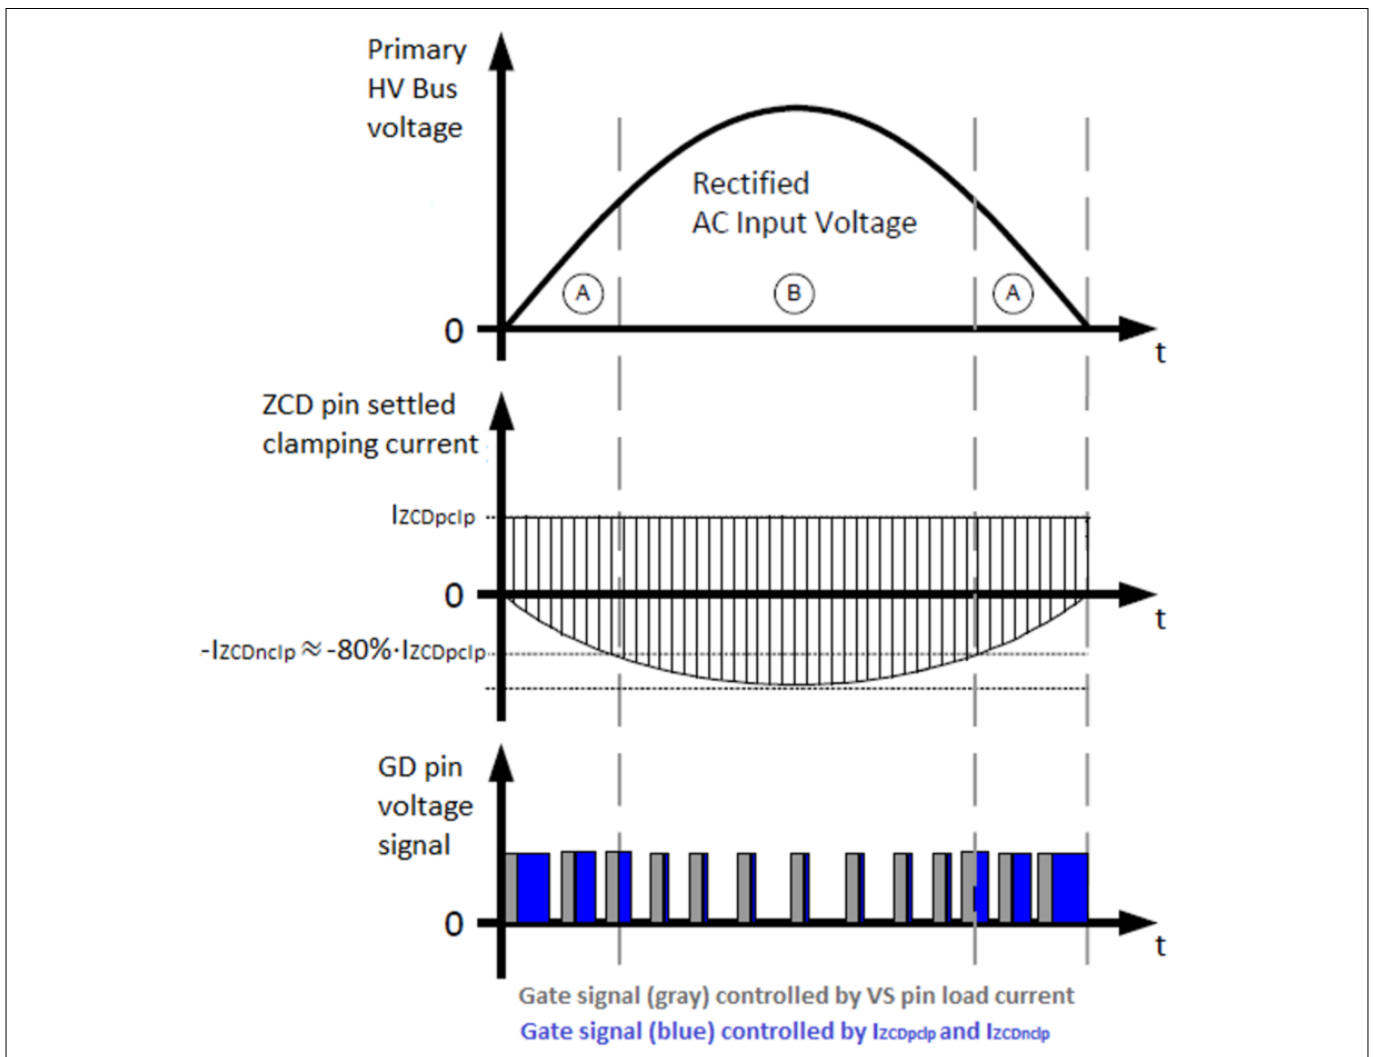

Figure 8 ICL88xx THD correction with on-time extension near AC input voltage zero crossing
As shown in Figure 8 area A, ICL88xx increases the on-time extension near AC input voltage zero crossing, where  $I_{ZCDnclp}$  is less than 80% of  $I_{ZCDpclp}$ .
- the on-time extension effect for THD correction (see Figure 8)